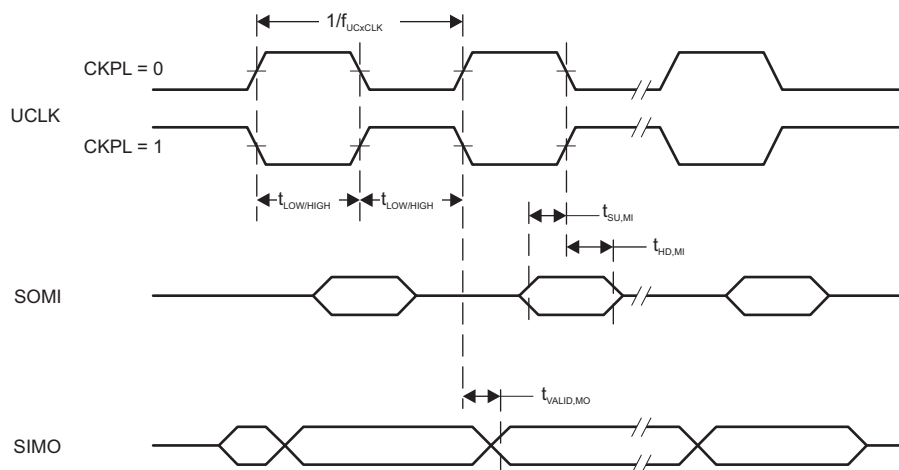
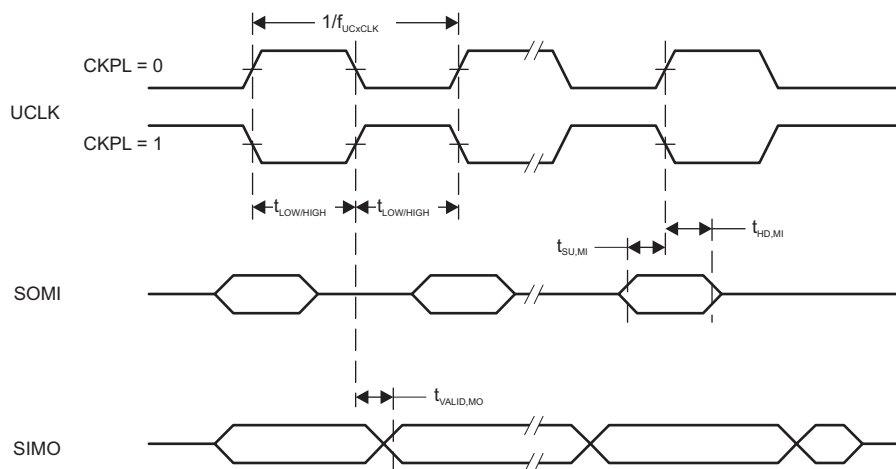

Figure 5-10. SPI Master Mode, CKPH = 0
Figure 5-11. SPI Master Mode, CKPH = 1
- (1) f_{UCxCLK} = 1/2(t_{LO/Hi}) with t_{LO/Hi} = max(t_{VALID,MO}(eUSCI) + t_{SU,SI}(Slave), t_{SU,MI}(eUSCI) + t_{VALID,SO}(Slave)). For the slave's parameters t_{SU,SI}(Slave) and t_{VALID,SO}(Slave) see the SPI parameters of the attached slave.
- (2) Specifies the time to drive the next valid data to the SIMO output after the output changing UCLK clock edge. See the timing diagrams in Figure 5-10 and Figure 5-11.
- (3) Specifies how long data on the SIMO output is valid after the output changing UCLK clock edge. Negative values indicate that the data on the SIMO output can become invalid before the output changing clock edge observed on UCLK. See the timing diagrams in Figure 5-10 and Figure 5-11.